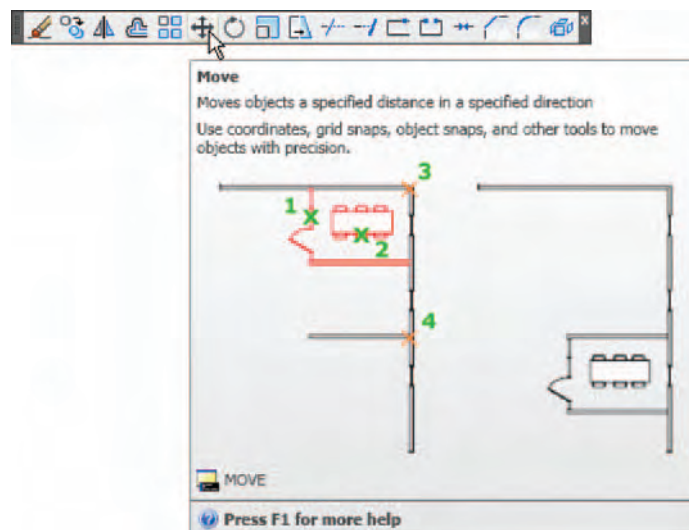

Fig. 5.24 The Move tool from the Home/Modify toolbar
2. Call **Move** – click the **Move** tool icon in the **Home/Modify** toolbar (Fig. 5.24), *pick Move* from the **Modify** panel, *pick Move* from the **Modify** drop-down menu, or *enter m* or *move* at the command line, which shows: